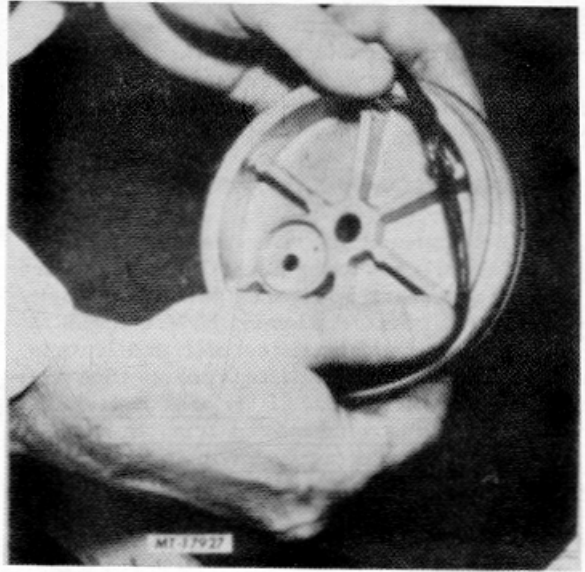

Fig. 8 Installing O-Rings
5. Thoroughly lubricate the two new o-rings and install them in their respective grooves in the purge plate (Fig. 8).